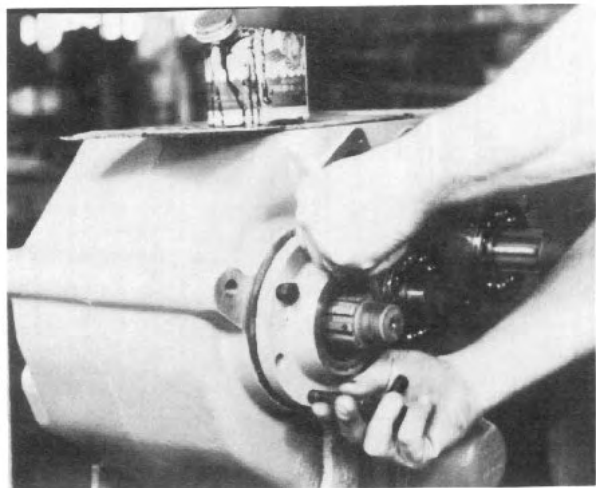

Fig. 32
9. Install the input seal carrier gasket in place on the front of the case housing and install the input seal carrier seal assembly in place. Permatex the mounting screws and tighten to the specified torque (See Fig. 32).